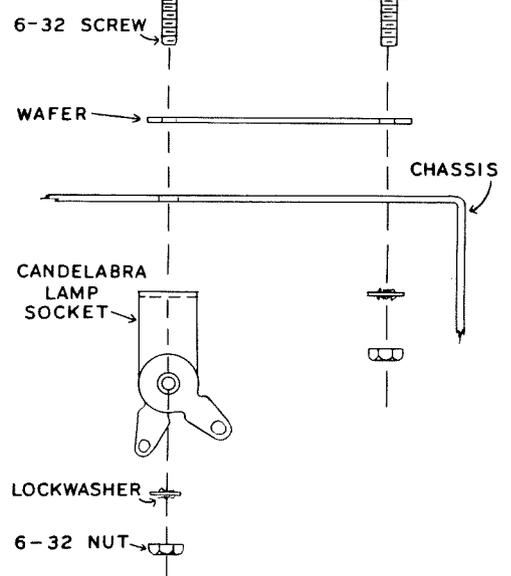

Figure 3
- (✓) Mount the condenser mounting wafer on top of the chassis. At the same time, install the candelabra lamp socket as shown in Figure 3.